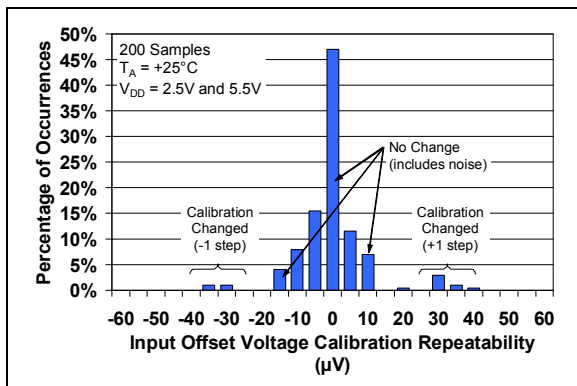

FIGURE 2-3: Input Offset Voltage Calibration Repeatability (repeated calibration).
- 2:** Increment between adjacent  $V_{OS}$  trim points; Figure 2-3 shows how this affects the  $V_{OS}$  repeatability.